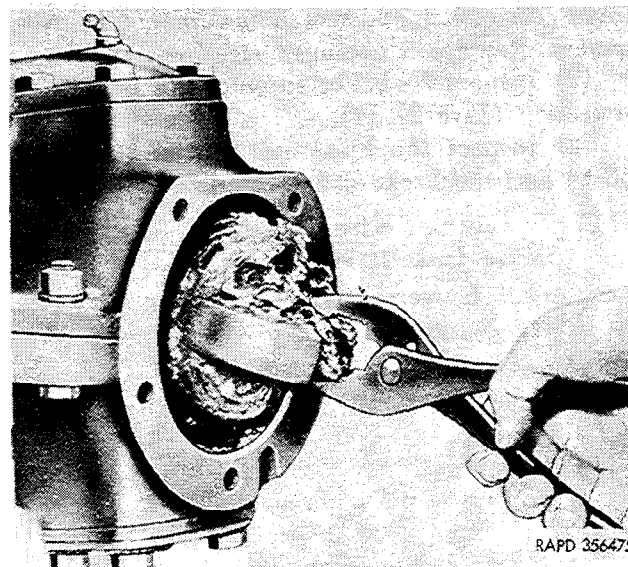

Figure 2-140. Removing inner shaft.
(4) Remove the male portion of the universal joint and the inner shaft (fig. 2-140). Separate the parts.